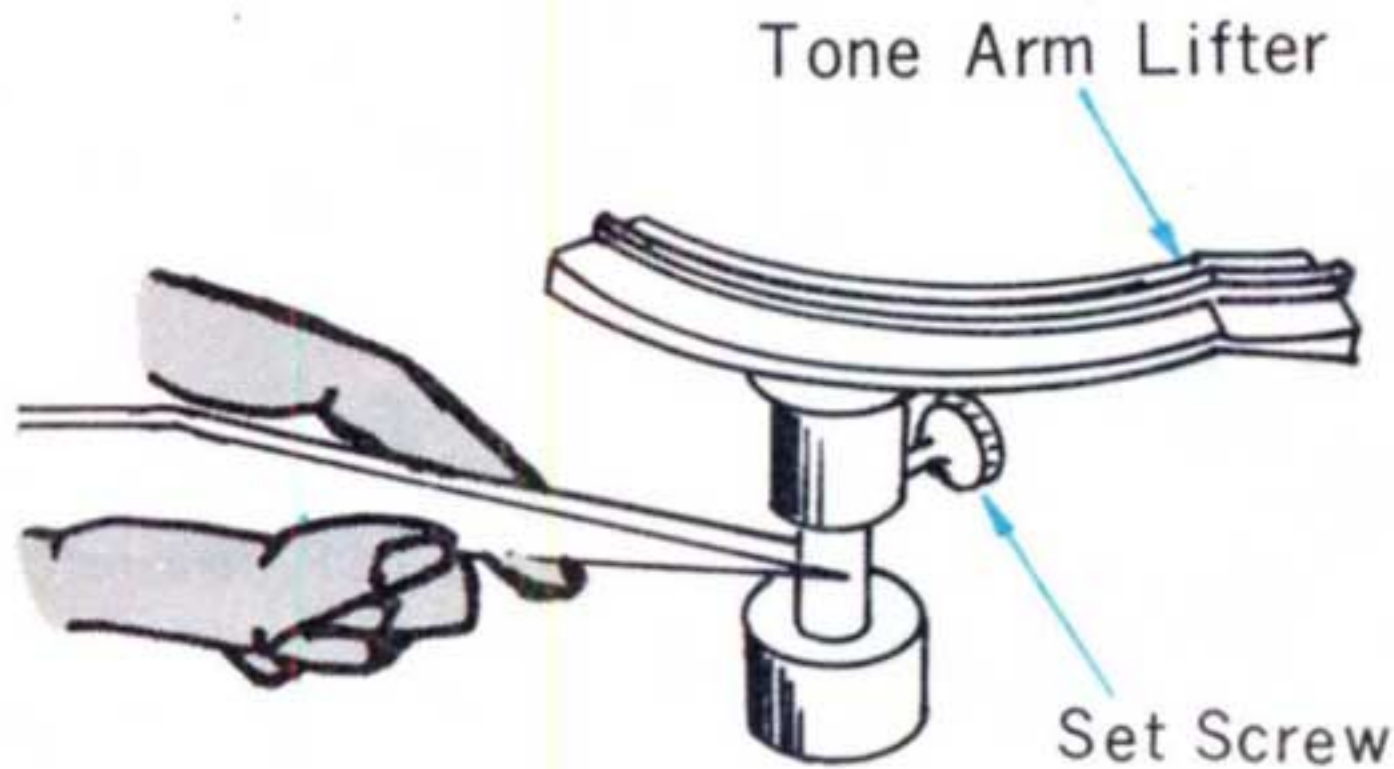

Fig. 3-4 Arm Lifter Height Adj.
3. Adjust the tone arm lifter height by loosening the set screw that secures the lifter to its shaft while holding the shaft with a pair of tweezers, as shown in Fig. 3-4.